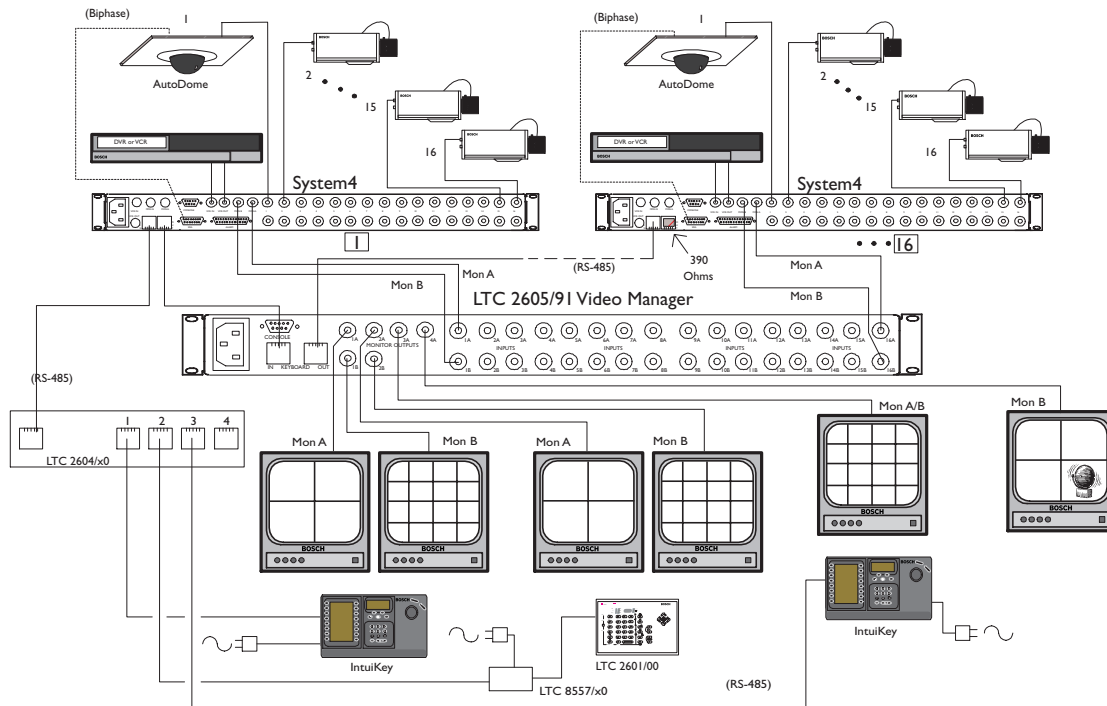

Figure 5 – Video Manager with IntuiKey Keyboards, an LTC 2601/00 Keyboard, and an Alarm Monitor
- Three Keyboard Configuration using LTC 2604 Keyboard Expander (Reference Figures 5 and 6 in Section 4: Installation Diagram):
Functional Notes for Figures 5 & 6: